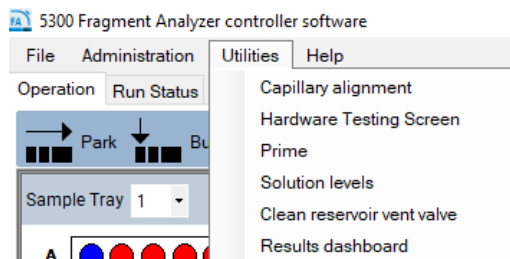

Figure 92 Utilities menu
- 1 From the **Utilities** drop-down menu, select **Results dashboard** (Figure 92).